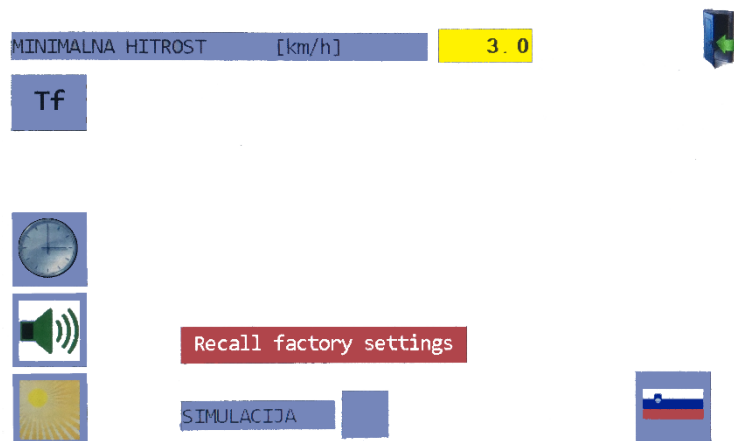

Figure 35
- Simulation is activated by pressing  icon (Figure 35).